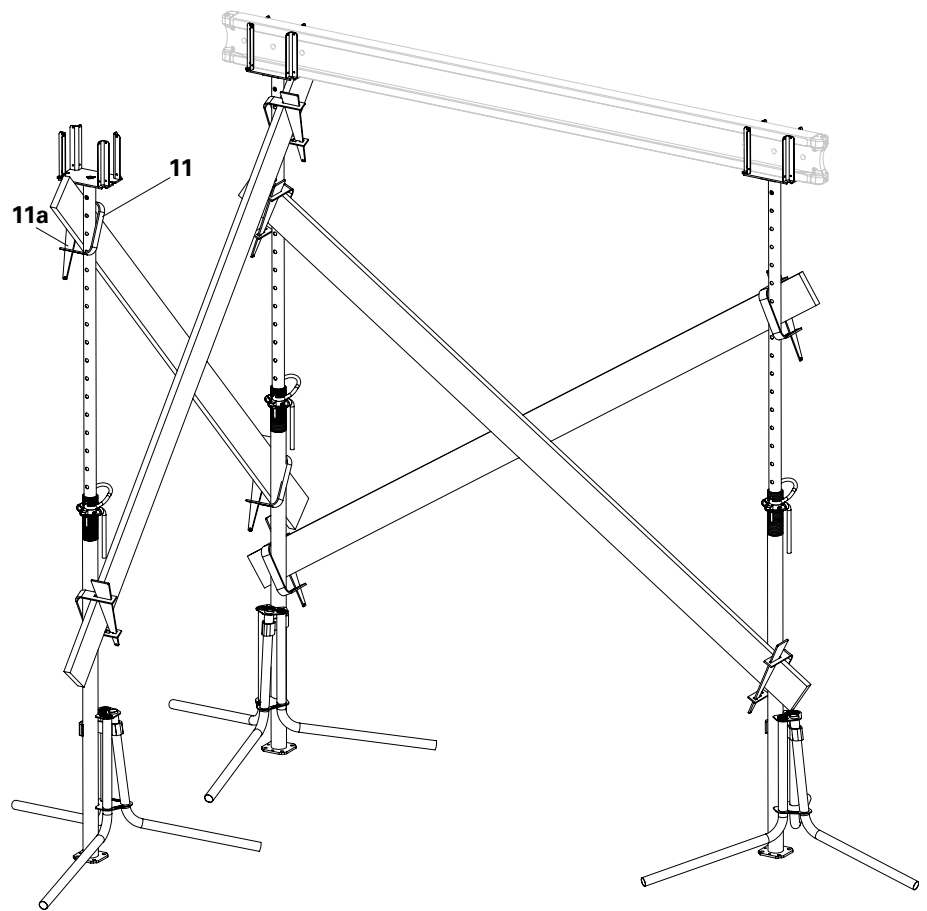

Fig. A3.01
5. Mount additional bracing boards by means of brace clamps. (Fig. A3.01)